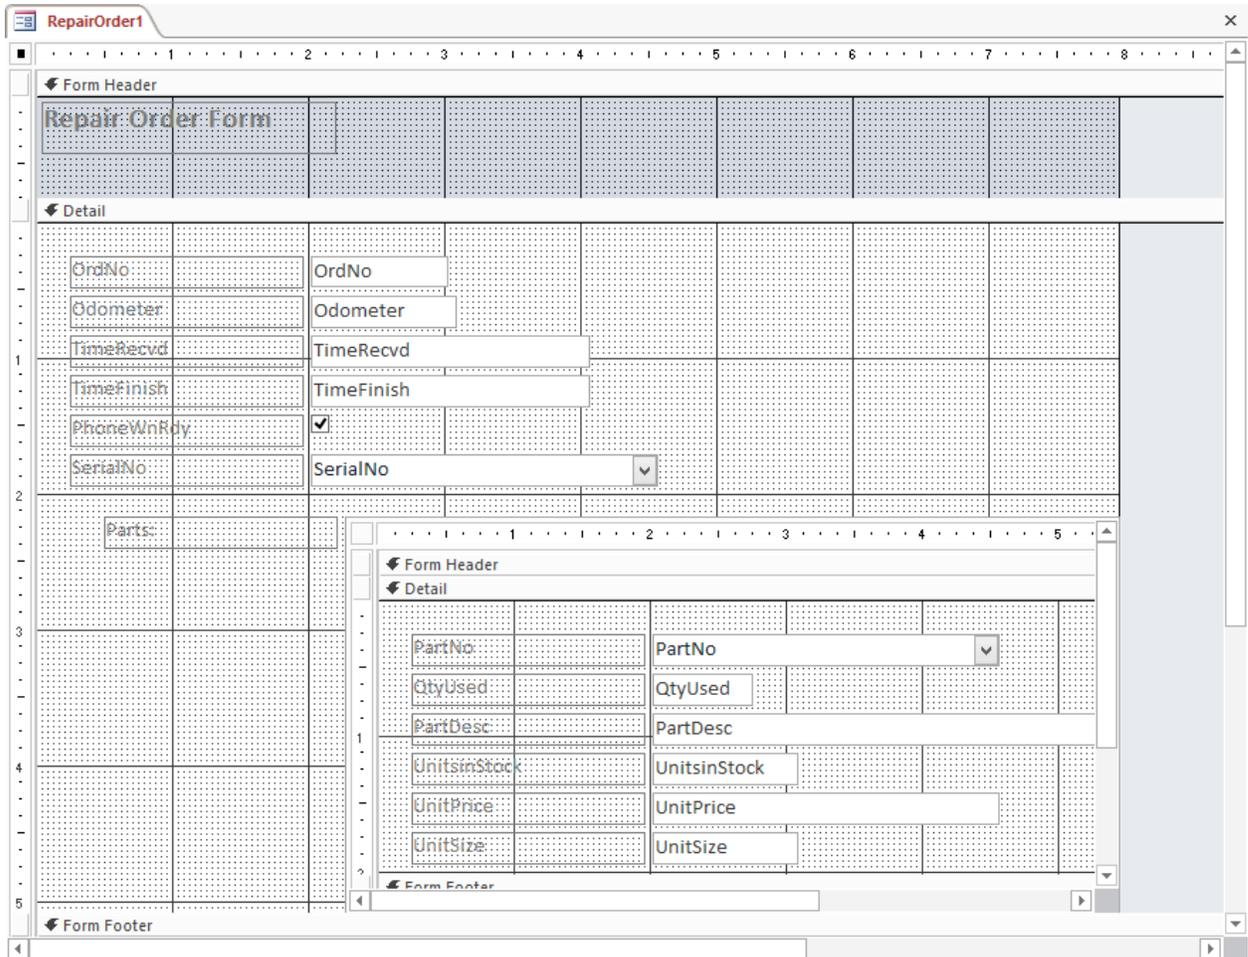

Figure 11: Design View of the *RepairOrder1* Form with the Subform Showing Controls
Before you customize the subform, you must close the main form and then reopen it. For some reason, Access does not allow you to edit the controls inside a subform until the main form is closed and reopened. After reopening the main form, it should appear as in Figure 11. The subform now allows you to manipulate the controls inside of it.
- **Change Field Names:** To change the headings for subform fields in datasheet view, you must change the label’s *Caption* property. Note that labels are under the form detail section, not the form header section, as shown in Figure 11. For each label in the subform, double-click on it and change its *Caption* property as indicated in Table 1.